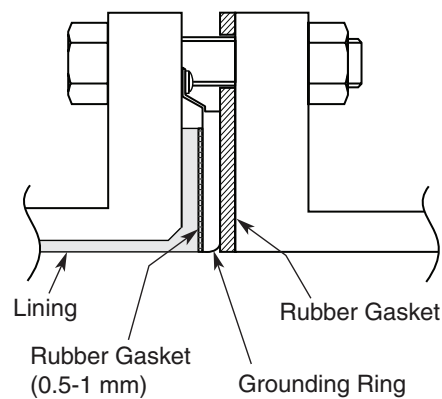

Figure 31. Installation on PVC Pipe with 316 ss Grounding Ring (with Rubber Gasket)
- Use this method to install the flowtube using a low-fastening torque and rubber gaskets. Remove the grounding ring from the flowtube, insert a rubber gasket 0.5 to 1.0 mm thick between the lining and the grounding ring, then reinsert the grounding ring. Then remove the PTFE gasket, and attach a gasket 3 to 4 mm thick instead. Under these conditions, attach the flowtube to the pipe as shown in Figure 31. Fasten the bolts to a torque that provides a leakproof joint.